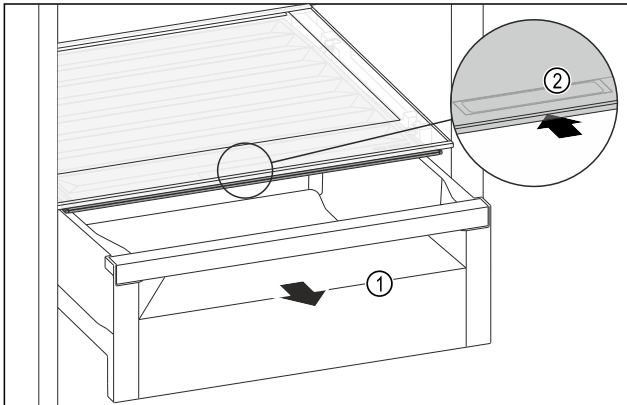

Fig. 147
- ▶ Pull out the drawer *Fig. 147 (1)*.
- ▶ Grasp the recessed grip *Fig. 147 (2)* on the compartment lid and push the compartment lid backwards at the same time.